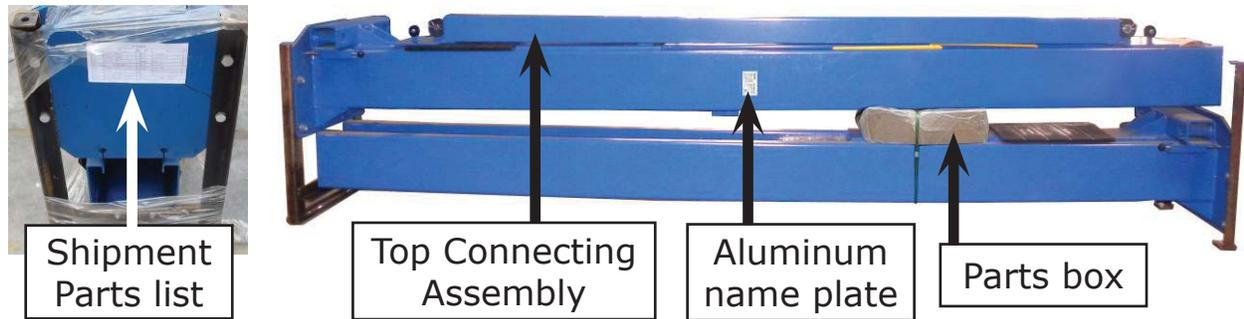

Fig. 8
2. Move the lift aside with a fork lift or hoist, and open the outer packing carefully. (See Fig. 8).